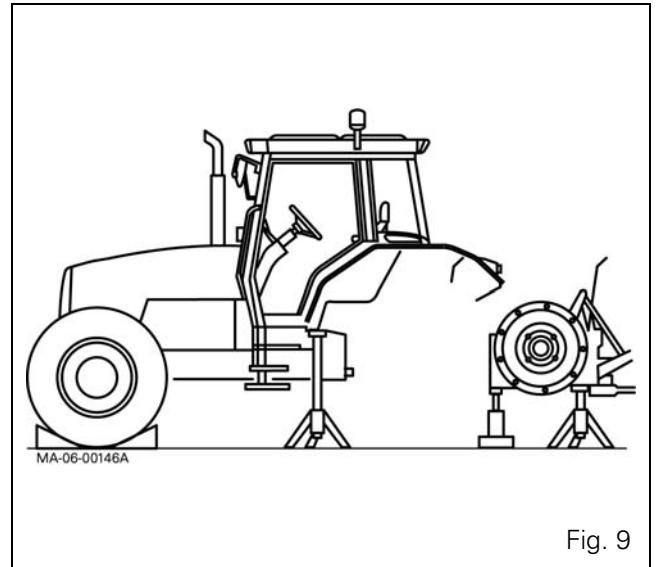

Fig. 9
26. Split the tractor between the gearbox and the rear axle (the cab remains integral with the gearbox) (Fig. 9).